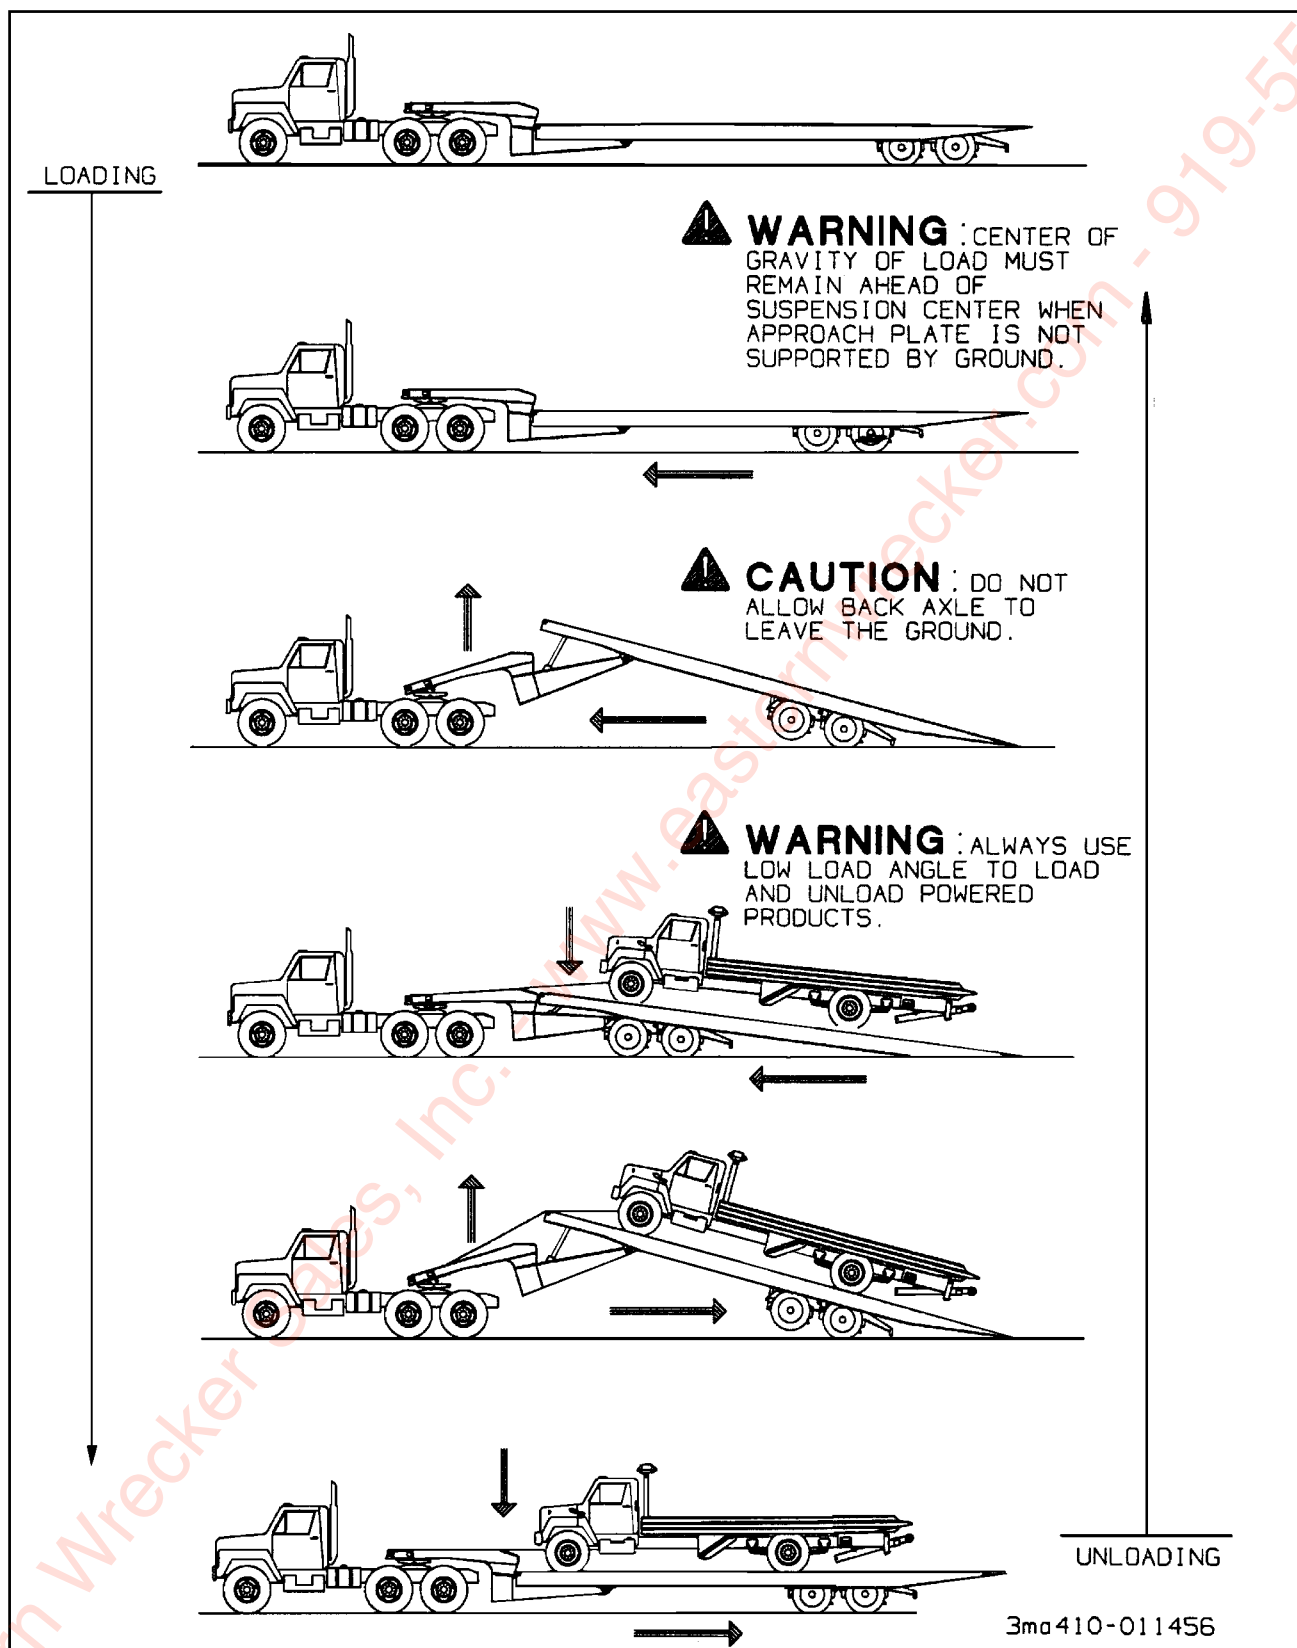

Figure 3-7 Steps for Loading and Unloading
- 3-13.2 Park the tractor/semitrailer in a straight line on level even surface. Set the tractor brakes and release the semitrailer brakes (See Figure 3-7).
3-14.2 Park the tractor/semitrailer in a straight line on a level even surface (**See Figure 3-7**). Set the tractor brakes and release the semitrailer brakes.